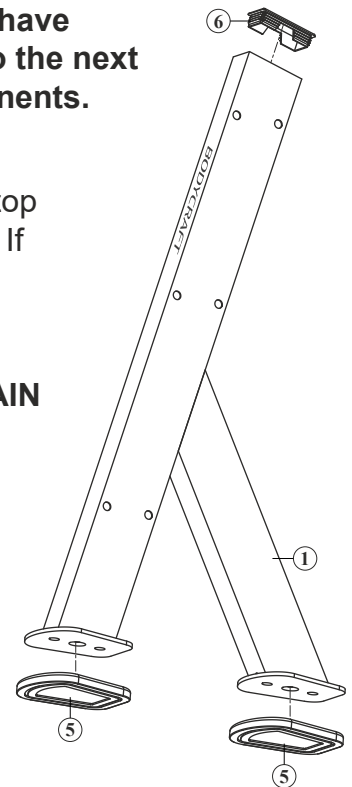

FIG. 1
1. Using a Rubber Mallet or similar tool, install the **#6 CAPS** into the top of **BOTH** of the **#1 MAIN FRAMES** as shown in Fig. 1. **IMPORTANT:** If the caps are cold, please let them acclimate to room temperature before installation or they may be damaged during installation.
2. By hand, install the four **#5 RUBBER FEET** onto both of the **#1 MAIN FRAMES** as shown in Fig. 1.